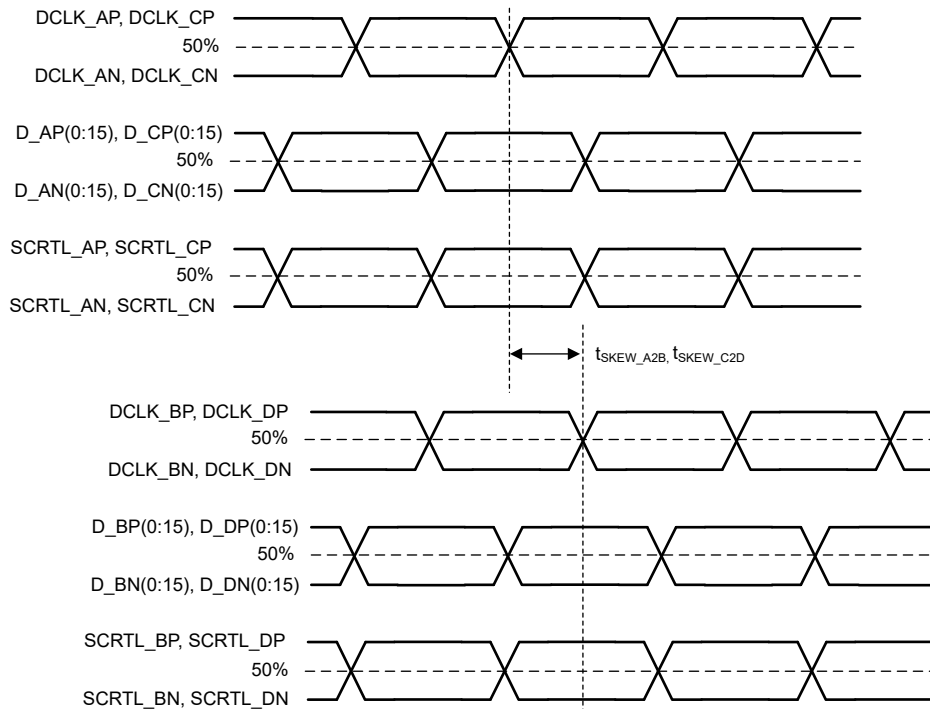

图 6-8. LVDS Skew Parameters
(5) See Figure 6-8.
(6) Channel A (Bus A) includes the following LVDS pairs: DCLK_A, SCTRL_A, and D_A.
- (7) Channel B (Bus B) includes the following LVDS pairs: DCLK_B, SCTRL_B, and D_B.
- (8) Channel C (Bus C) includes the following LVDS pairs: DCLK_C, SCTRL_C, and D_C.
- (9) Channel D (Bus D) includes the following LVDS pairs: DCLK_D, SCTRL_D, and D_D.